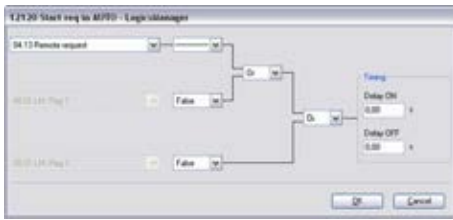

Fig. 160: LogicsManager function "Start req in AUTO"
3. ➤ Configure the LogicsManager function "Start req in AUTO" as shown in (Fig. 160).